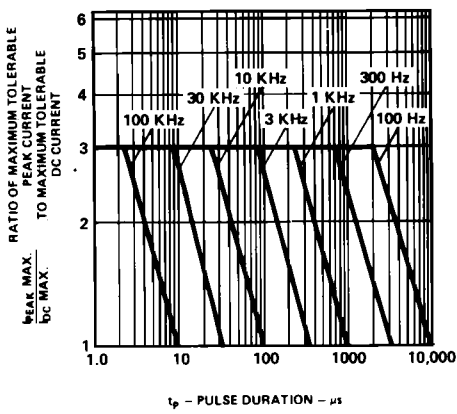

Figure 2. Maximum Tolerable Peak Current vs. Pulse Duration. ($I_{DC \text{ MAX}}$ as per MAX Ratings).
1. See Figure 2 to establish pulsed operating conditions.